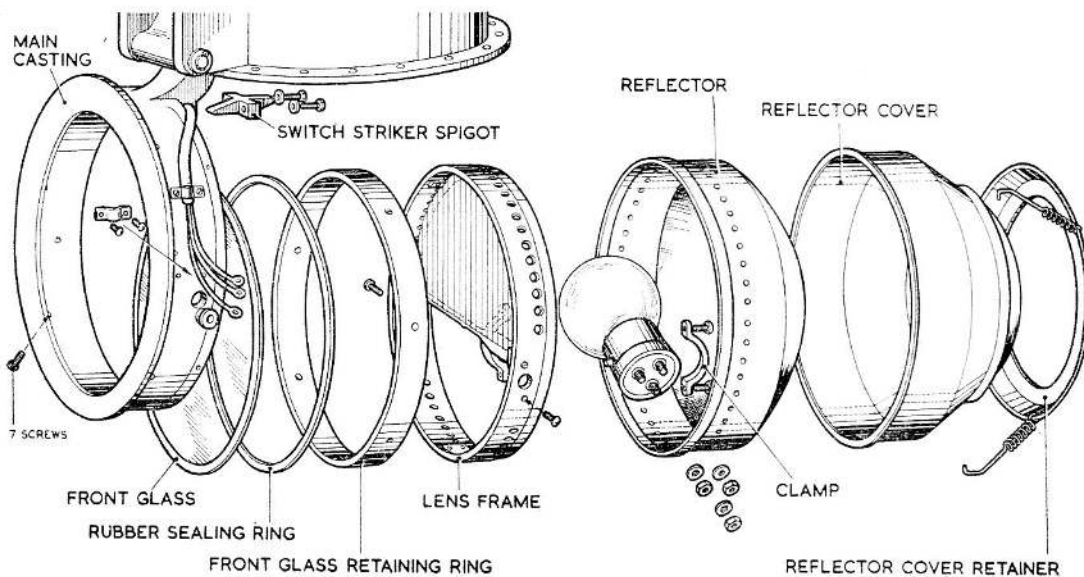

Fig. 3. Lamp case assembly
19. The lamp case assembly (*fig. 3*) consists of the following components:—